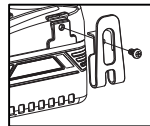
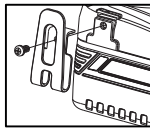

Fig. 8A
Fig. 8B
5. To install the belt hook, insert it into a groove in the tool housing on either side and then secure it with a screw . To remove, loosen the screw and then take it out . (Fig . 8A & Fig . 8B)